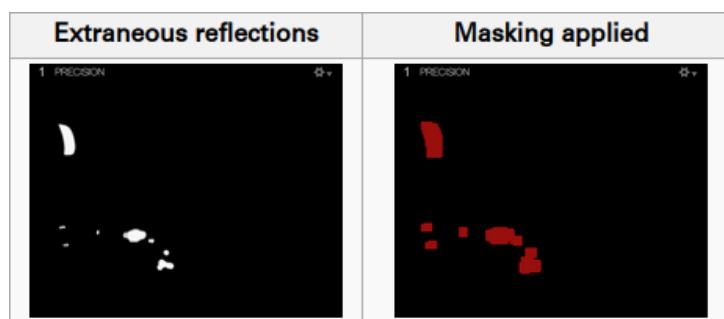

Figure 28: Masking reflections. Source: link
Step 1: **Masking:** Use the masking tool to remove any extraneous reflections before proceeding to wanding. Use the **Mask Visible** button to mask extraneous reflections that cannot be removed from capture volume. If a mask is already applied, press Clear Mask to remove the existing mask. All extraneous reflections or unnecessary markers are ideally removed from the capture volume before doing the calibration (eg. your UAV with markers on it). This tool applies red masks over the extraneous reflections seen from the 2D camera view, and all of the pixels in the masked regions is entirely filtered out (see figure 28).